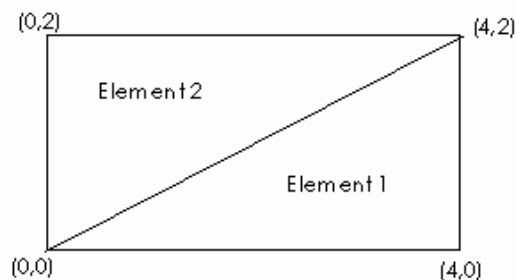

Figure: 2
- Determine the strain-displacement matrix for the element shown in Figure 2.